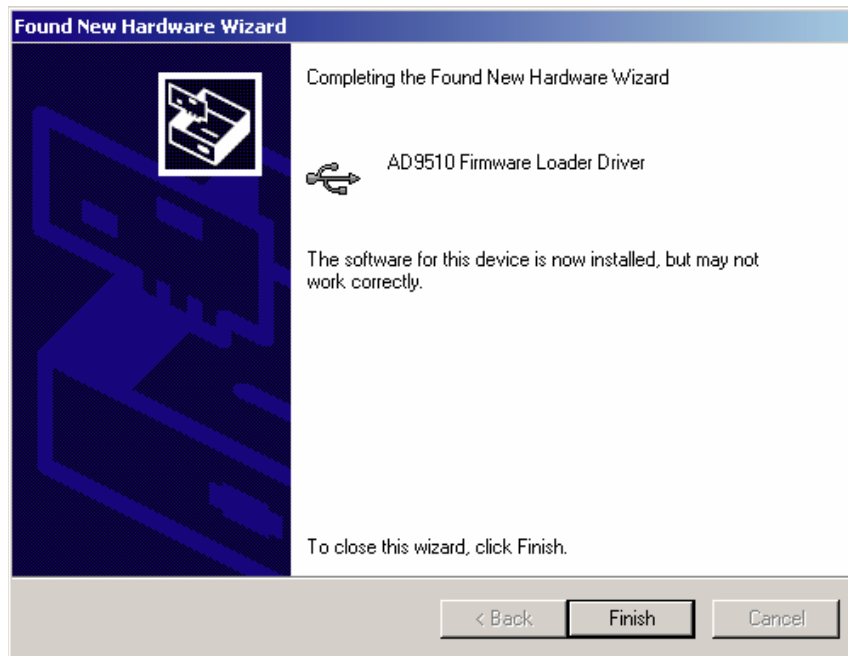

Figure 4.
5. If you are using Windows 2000 and you see the window shown in Figure 4, click **Finish**.